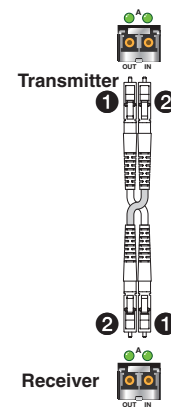

Figure 4. Connection
- See figure 4 for fiber cable connections. Connect the transmitter to a receiver in one of two ways: